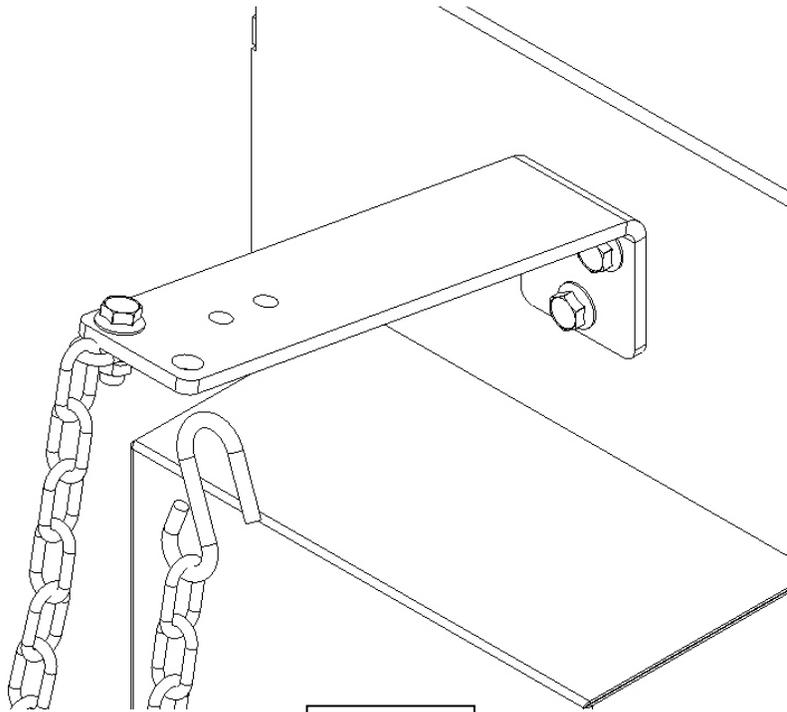

Fig. 17.1
Locate the PTO support bracket & mount it to the infeed housing as shown in fig. 17.1 using (3) 3/8" x 3/4" flange bolts & flange nuts. Attach the PTO support chain to the bracket as shown using a 3/8" x 1" flange bolt & flange nut.